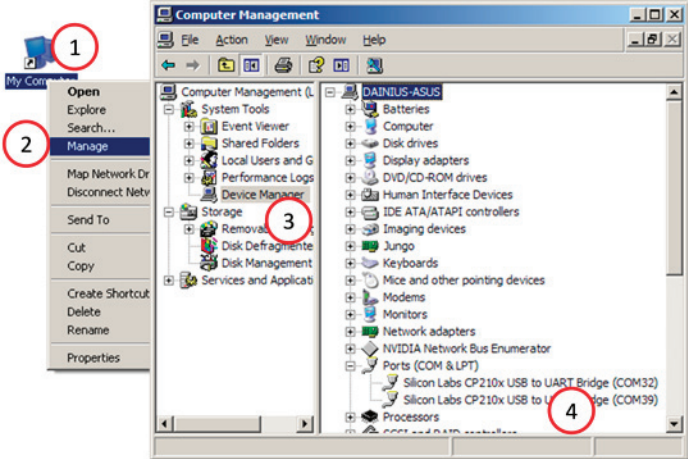

Figure 16. Finding MoTeX serial port name using Windows “Computer Manager”.
In case if only drivers were installed (no "MoTex" software itself – see Table 1 on page 8) serial port name could be checked in Windows "Computer manager". Right click on "My Computer" (1), select "Manage" (2). "Computer manager" window will appear. Click on "Device Manager" under "Computer Management" tree (3) and look for "Ports (COM and LPT)" (4). Each connected and powered on MoTex appears as "Silicon Labs CP210x USB to UART Bridge (Serial port name)". Serial port name is shown in parentheses fig. 16.